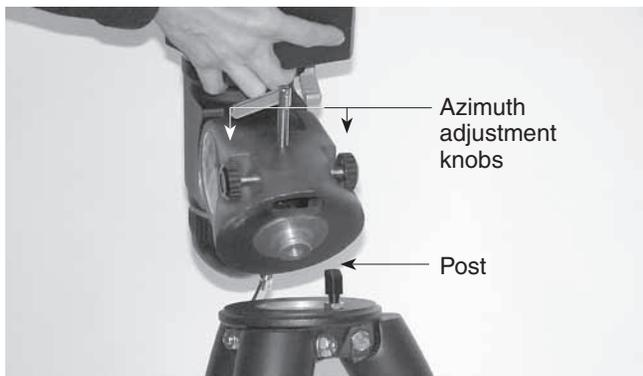
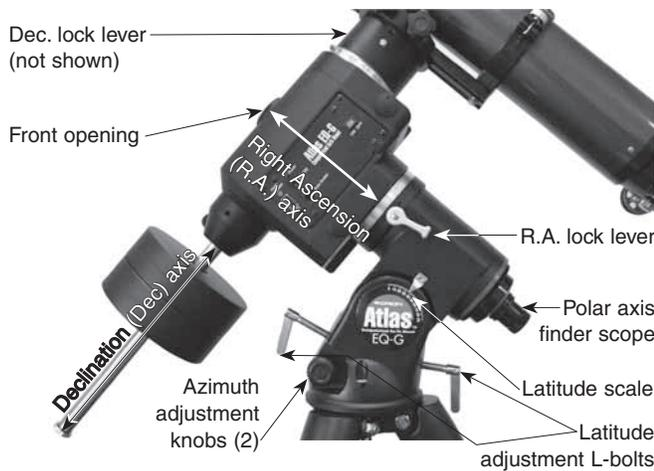
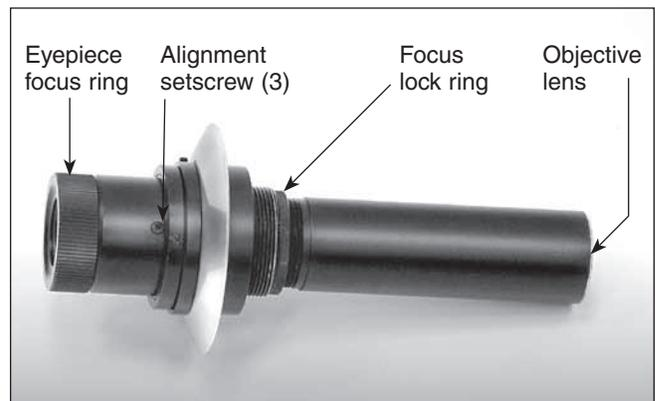

Figure 2. Orient the equatorial head so that the post on the tripod lines up with the azimuth adjustment knobs on the equatorial mount.
Figure 5. The Atlas EQ-G mount.
Figure 7. The polar axis finder scope.
2. Place the base of the equatorial mount onto the tripod head. Orient the equatorial mount so that the post on the tripod head lines up with the azimuth adjustment knobs on the equatorial mount (**Figure 2**). You may need to loosen the azimuth adjustment knobs on the equatorial mount in order to fit the mount onto the tripod head.
When you look at the night sky, you no doubt have noticed that the stars appear to move slowly from east to west over time. That apparent motion is caused by the Earth's rotation (from west to east). An equatorial mount (**Figure 5**) is designed to compensate for that motion, allowing you to easily "track" the movement of astronomical objects, thereby keeping them from drifting out of your telescope's field of view while you're observing.
2. There are two latitude adjustment L-bolts (see **Figure 5**); loosen one while tightening the other. By doing this you will adjust the latitude of the mount. Continue adjusting the mount until the pointer on the latitude scale is set at the latitude of your observing site. If you don’t know your latitude, consult a geographical atlas to find it. For example, if your latitude is 35° North, set the pointer to 35. The latitude setting should not have to be adjusted again unless you move to a different viewing location some distance away.
3. Loosen the Dec. lock lever and rotate the telescope’s optical tube until it is parallel with the right ascension axis, as it is in **Figure 5**.
The Atlas EQ-G mount comes with a polar axis finder scope (**Figure 7**) housed inside the right ascension axis of the mount. When properly aligned and used, it makes accurate polar alignment quick and easy to do. Unthread the cover at the rear of the mount’s right ascension axis and remove the cap on the front opening of the equatorial mount (**Figure 5**) to view through the polar axis finder scope.
4. Look through the polar finder again. Is the object being viewed still centered on the crosshairs? If it is, then no further adjustment is necessary. If not, then look through the polar finder while rotating the mount about the R.A. axis. You will notice that the object you have previously centered moves in a circular path. Use the three alignment set-screws on the polar axis finder (**Figure 7**) to redirect the crosshairs of the polar finder to the apparent center of this circular path.
5. Now use the azimuth adjustment knobs (**Figure 2**) and the latitude adjustment L-bolts (**Figure 5**) on the mount to position the star Polaris inside the tiny circle marked “Polaris” on the finder’s reticle. You must first loosen the knob underneath the equatorial mount on the center support shaft to use the azimuth adjustment knobs. Once Polaris is properly positioned within the reticle, you are
The polar axis finder scope is normally focused by simple rotation of the eyepiece focus ring. However, if after adjusting the focus ring you find that the image of the reticle is sharp, but the stars are out of focus, then you must adjust the focus of the polar axis finder’s objective lens. To do this, first remove the polar axis finder from the mount by unthreading it. Look through the polar axis finder at a star (at night) or distant object at least 1/4 mile away (during daylight). Use the eyepiece focus ring to bring the reticle into sharp focus. Now, loosen the focus lock ring (**Figure 7**) and thread the entire objective end of the finder inward or outward until images appear sharp. Re-tighten the focus lock ring. Once the polar axis finder’s objective lens is focused, it should not need to be adjusted again.